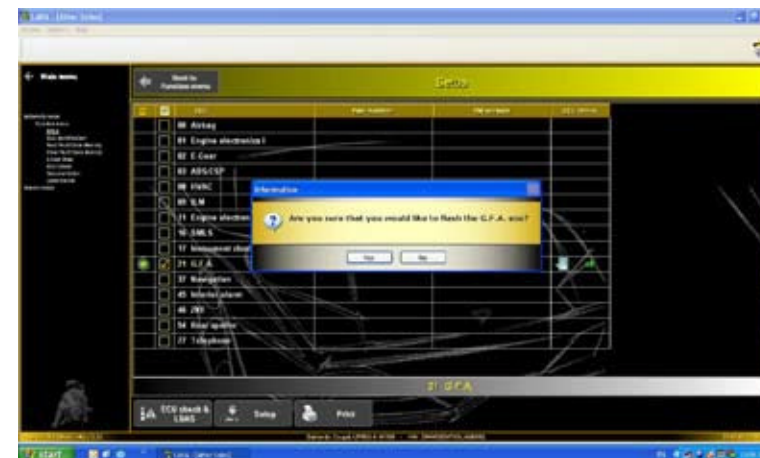

Fig.113
- Once the check has finished, regardless of the outcome, the system will ask you whether you want to carry out the update; select "YES" (**Fig.113**) to carry out the update.